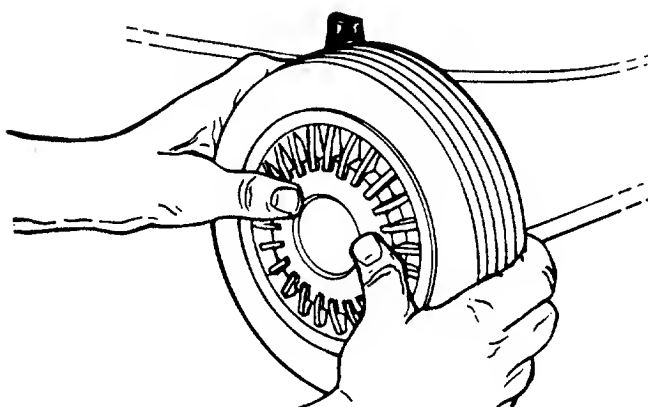

FIGURE 8.—Optional Hub Caps
2. If your mower is equipped with 2" wide tires, place hub caps in position against the inner hub of the wheel. Press firmly around the center portion of hub cap in a circular motion, similar to installing a lid on a round, plastic container. See figure 8. The hub caps are flexible and will snap over the wheel hubs.